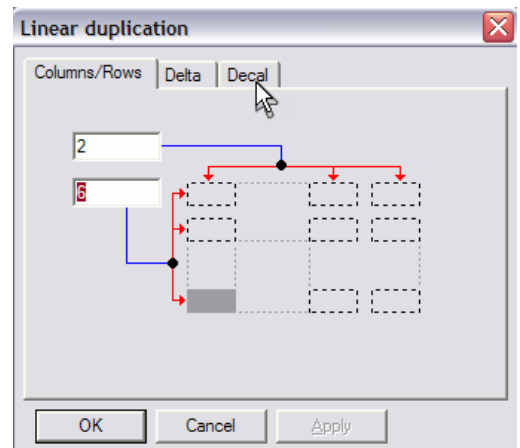

Figure 7-16 Linear Duplication F2 Dialog Box, Tab 1
- Click on the right-most tab (Decal = Repeat). The page that pops up will let us enter the vertical and horizontal pitch between station duplicates. We’ll enter -1.000 (down direction) and 0 respectively (Figure 7-16)